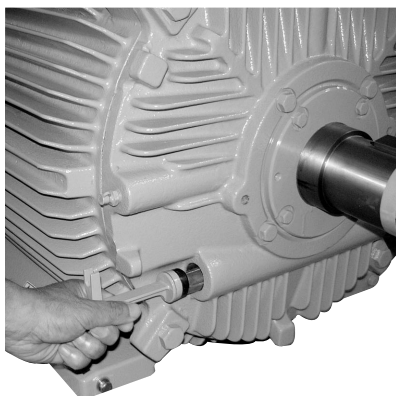

Figure 19.4 The grease remover
- (A) Always remove the unwanted grease before replacing it with new grease.
- (B) First, remove the grease remover (Figure 19.4).